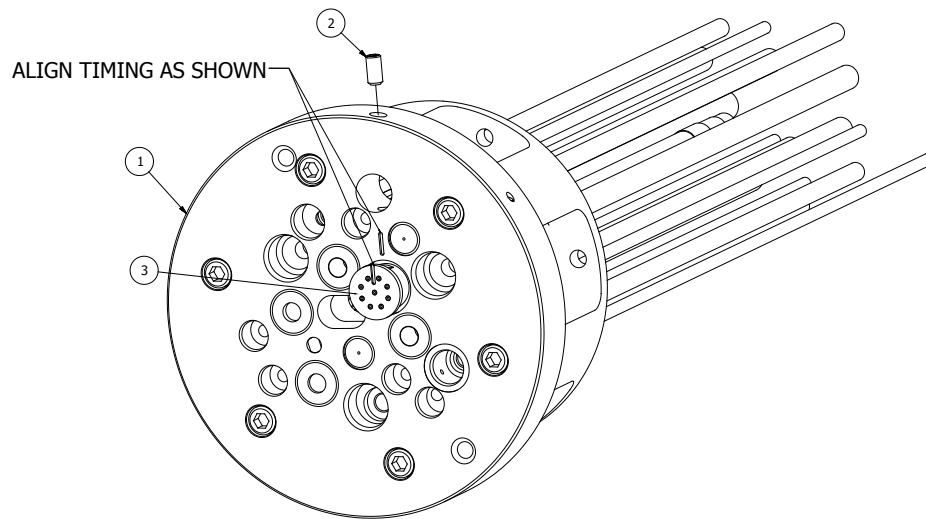

Figure 18: Low Voltage Cable Removal
LOW VOLTAGE CABLE REMOVAL - PARTS LIST (Figure 18)
Low Voltage Cable Removal (Refer to Figure 18)
3. Using 3/16" Allen wrench, remove set screw [2] (see Figure 18).